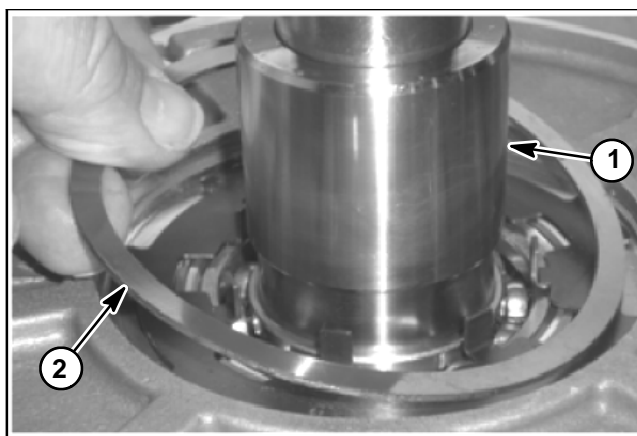

Figure 21
14. Remove the gear spacer from the cover plate (Fig. 21).